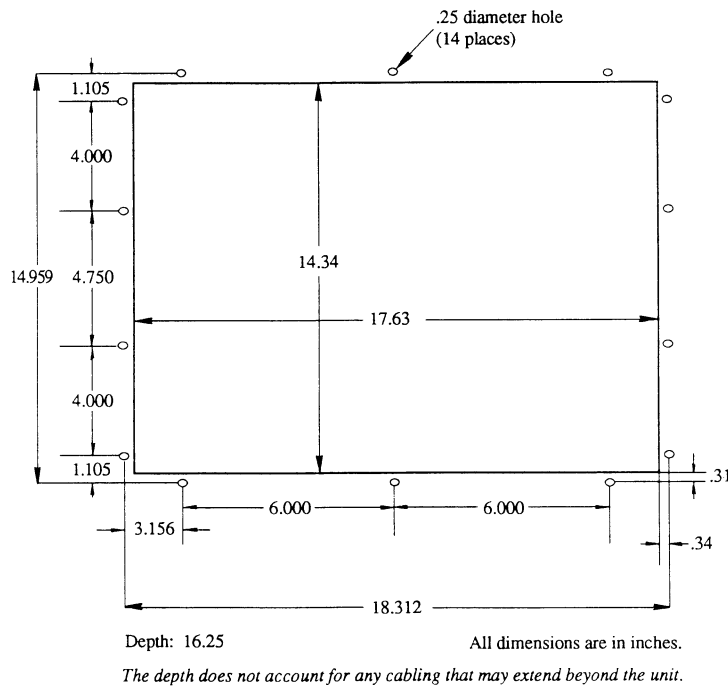

Figure 2-2. Cutout Dimensions
2. Add the cutout (as shown in Figure 2-2) to the enclosure.